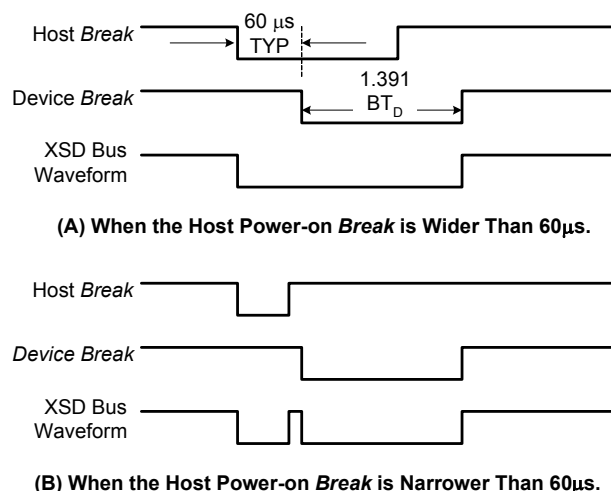

FIGURE 4. POWER-ON BREAK SIGNAL TO WAKE-UP THE ISL9206 FROM SLEEP MODE
Note that the ISL9206 will initiate the power-on sequence without waiting for the power-on 'break' signal to return to the high state. If the host sends an initial 'break' pulse wider than 60μs, the device-ready 'break' returned by the ISL9206 will likely be merged with the pulse sent by the host and, therefore, may not be detectable. Figure 4 illustrates the waveforms during the Power-on Reset. Figure 4 (A) is for the case that the power-on 'break' rising edge occurs after the device starts to sending the 'break'. Figure 4 (B) shows the case that the power-on 'break' finishes before the device sending its 'break'. The device break signal is always 1.391 times of the device bit-time (BT, see XSD Bus Interface section for more details). Either case in Figure 4 will wake up the device successfully if the device is in the sleep mode.